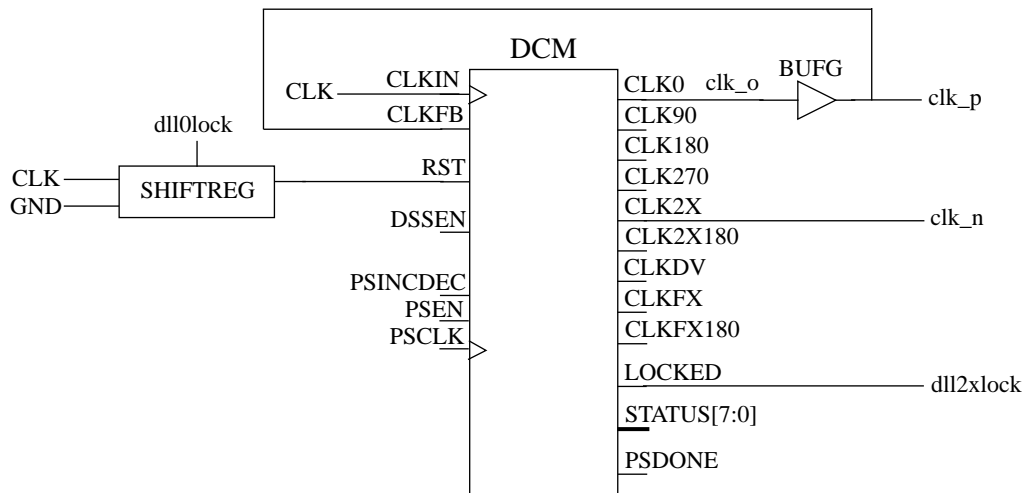
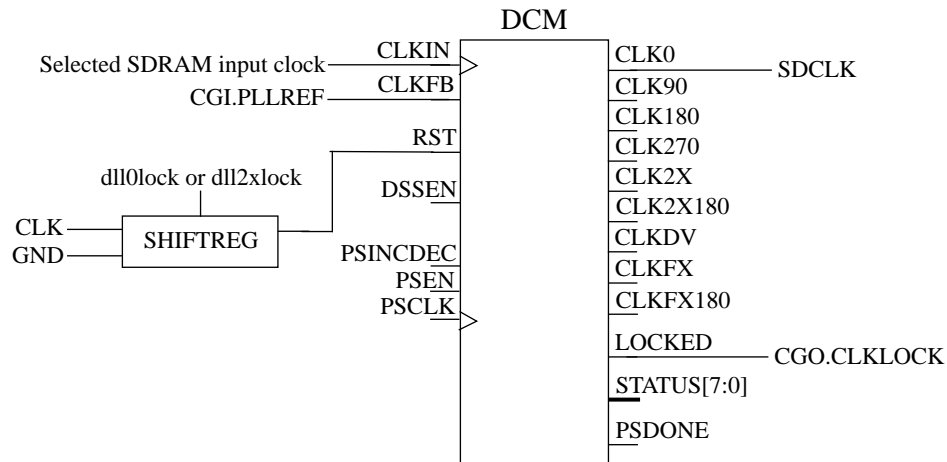
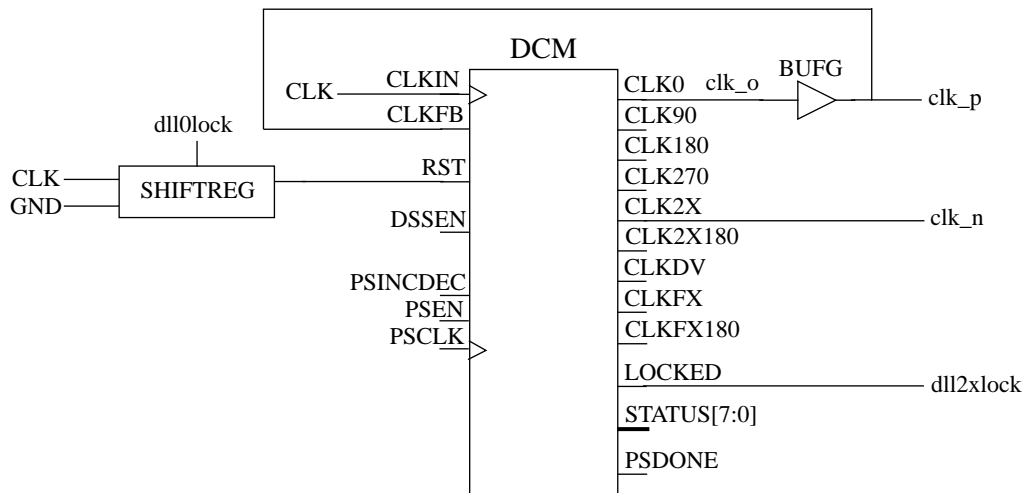
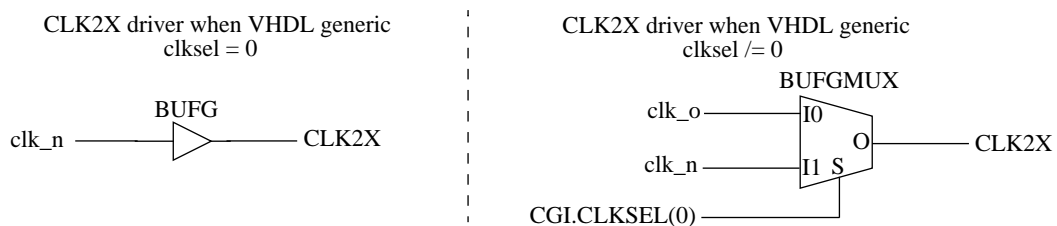

Figure 57. Virtex 2/4 generation of CLK2X clock when VHDL generic *clk2xen* is non-zero
Figure 60. Virtex 2/4 generation of SDRAM clock
Figure 63. Virtex 5 generation of CLK2X clock when VHDL generic *clk2xen* is non-zero
Figure 64. Virtex 5 selection of CLK2X clock when VHDL generic *clk2xen* is non-zero
If the VHDL generic *clk2xen* is non-zero the DCM shown in figure 57 is instantiated. The attributes of this DCM are the same as in table 180, except that the CLKFX\_MULTIPLY and CLKFX\_DIVIDE attributes are both set to 2. The dll0lock signal is connected to the LOCKED output of the main clock DCM. When this signal is low all the bits in the shift register connected to the CLK2X DCM's RST input are set to '1'. When the dll0lock signal is asserted it will take four main clock cycles until the RST input is deasserted. Depending on the value of the *clkssel* VHDL generic the core's CLK2X output is either driven by a BUFG or a BUFGMUX. Figure 58 shows the two alternatives and how the CGI.CLKSEL(0) input is used to selected between the CLK0 and CLK2X output of the CLK2X DCM.
If the SDRAM clock is enabled, via the *sdramen* VHDL generic, and the clock generator is configured to use clock feedback the DCM shown in figure 60. The input to the SDRAM DCM input clock is determined via the *clk2xen* VHDL generic. If the VHDL generic is set to 0 the input is the main CLK, if the generic is set to 1 the input is the *clk\_p* out of the CLK2X DCM shown in figure 57. If the *clk2xen* VHDL generic is set to 2 the clock input to the SDRAM DCM depends on the *clksel* VHDL generic. The input in this last case is the CLK2X output shown in figure 58.
If the VHDL generic *clk2xen* is non-zero the DCM shown in figure 63 is instantiated. The attributes of this DCM are the same as in table 181, except that the *CLKFX\_MULTIPLY* and *CLKFX\_DIVIDE* attributes are both set to 2. The *dll0lock* signal is connected to the *LOCKED* output of the main clock DCM. When this signal is low all the bits in the shift register connected to the *CLK2X* DCM's *RST* input are set to '1'. When the *dll0lock* signal is asserted it will take four main clock cycles until the *RST* input is deasserted. Depending on the value of the *clkssel* VHDL generic the core's *CLK2X* output is either driven by a BUFG or a BUFGMUX. Figure 64 shows the two alternatives and how the *CGI.CLKSEL(0)* input is used to selected between the *CLK0* and *CLK2X* output of the *CLK2X* DCM.
The input to the SDRAM DCM input clock is determined via the *clk2xen* VHDL generic. If the VHDL generic is set to 0 the input is the main CLK, if the generic is set to 1 the input is the *clk\_p* out of the CLK2X DCM shown in figure 57. If the *clk2xen* VHDL generic is set to 2 the clock input to the SDRAM DCM depends on the *clksel* VHDL generic. The input in this last case is the CLK2X output shown in figure 64.
If the SDRAM clock is disabled (*sdramen* VHDL generic set to 0) or the core has been configured not to use clock feedback (*noclockfb* VHDL generic set to 1) the driver of the core's SDCLK output is determined by the value of the *clk2xen* VHDL generic. If the *clk2xen* VHDL generic is set to 2, the SDRAM clock output is the same as the CLK2X output shown in figure 64, in other words it also depends on the *clkssel* VHDL generic. If the *clk2xen* VHDL generic has any other value the SDCLK output is the same as the core's CLK output.